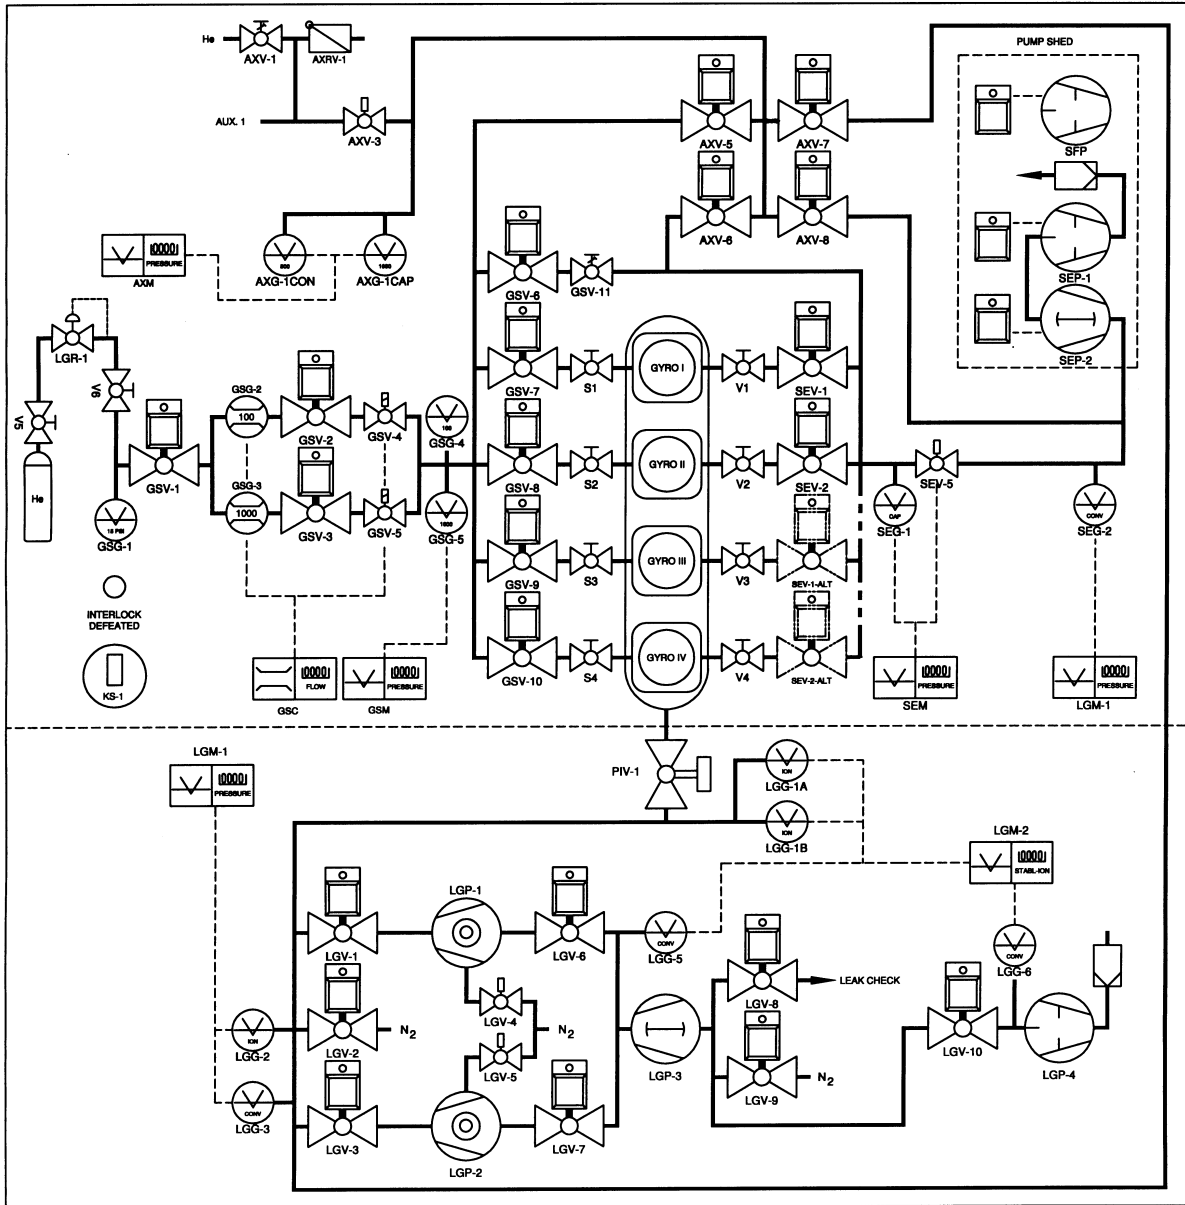

Figure 3
- L.5.1.1 Open / verify open spinup gas supply valves V5, V6 with LGR-1 set to 2-5 psig (see Fig. 3).